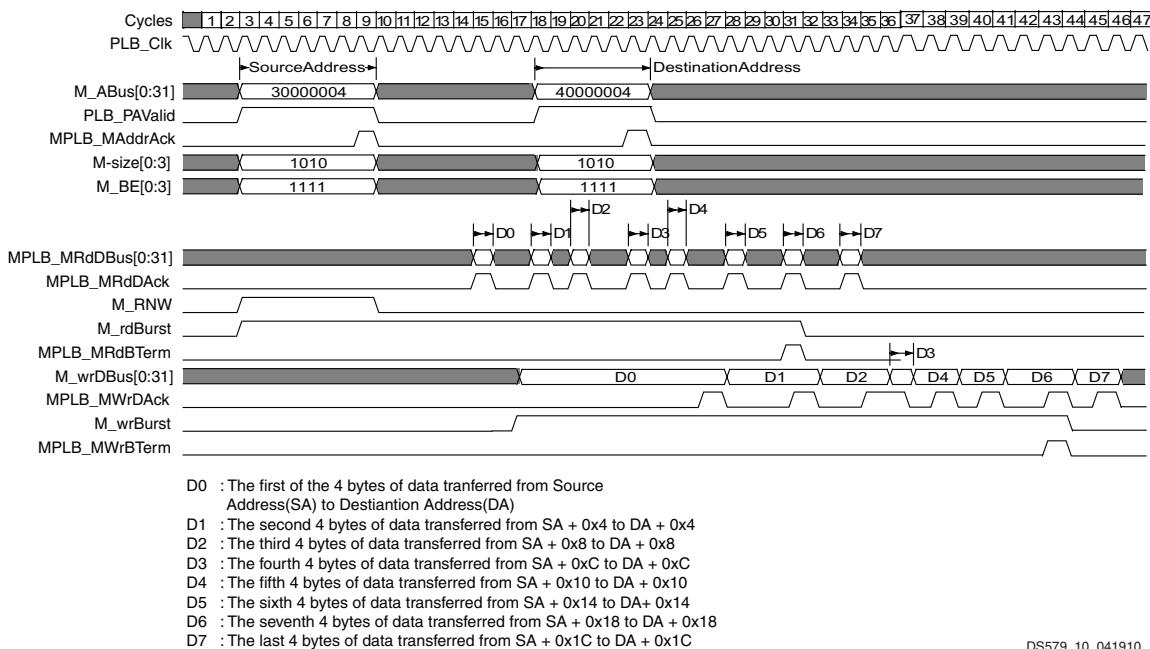

Figure 10: Transaction for 32-bit Aligned DMA Transfer of Length 32
1. Read and write transactions of a 32-bit aligned DMA transfer of length 32 bytes are shown in Figure 10.